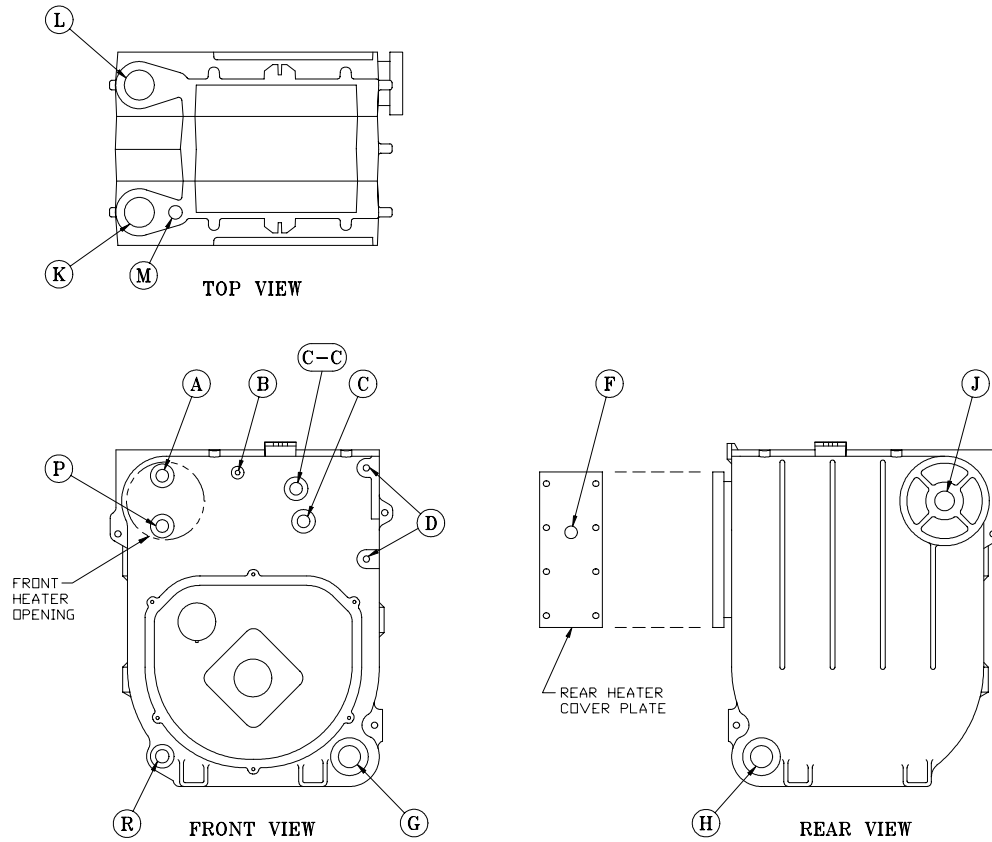

Figure 4: Boiler Tapping Locations and Usage (Knockdown Boilers Only)
D. DRAIN WATER FROM BOILER. Remove gauge, valve and plugs from those tappings to be used. Leave other tappings plugged or bushed according to Figure 4.
4. Secure canopy to boiler with two (2) 1/4" - 20 x 3" lg. carriage bolts, 1/4" flat washers and 1/4" - 20 wing nuts provided.
H. INSTALL the following steam or water trim that would be concealed or inaccessible after flush jacket is installed, see Figure 4 for boiler tapping locations and usage.
4. Screw drain valve into 1/2" tapping in lower rear section using 1/2" x 3/4" bushing (note - lower front section tapping "G" (see Figure 4) is used for standard return on water boilers).